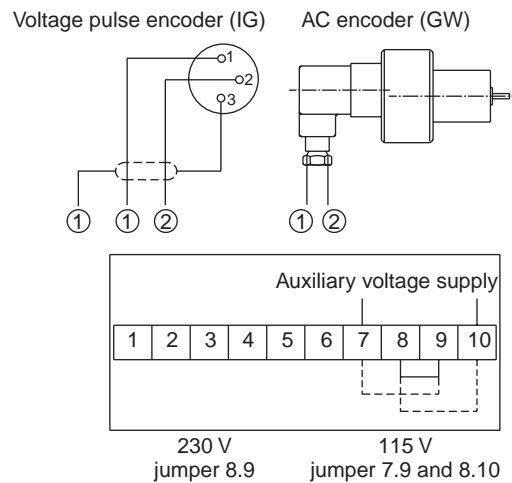
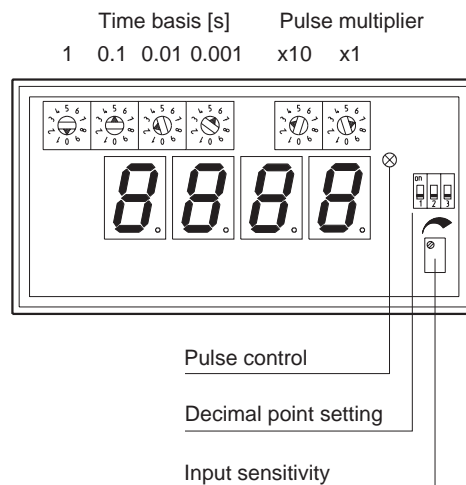

Figure 14: Connecting the DA digital remote speed display
Figure 15: Adjusting the DA digital remote speed display
The contact-free digital remote speed display DA is connected to the AC encoder GW or the IG voltage pulse encoder (Figure 14 and Figure 15):
1. Connect the device (Figure 14)
3. Adjust measuring interval (Figure 15 and Section "DA calculation examples" on page 22)
4. Adjust input sensitivity (Figure 15):